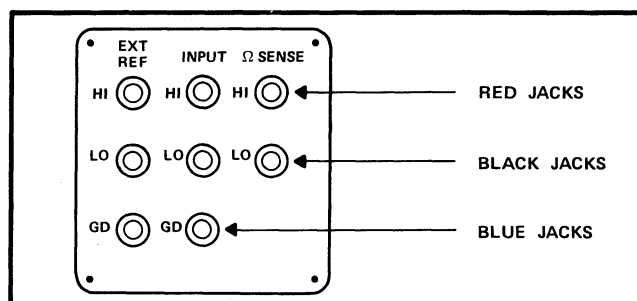

Figure 6-1. REAR TERMINAL LAYOUT
- Assemble the accessory board by mounting the eight banana jacks at the locations shown in Figure 6-1, using the hardware supplied.